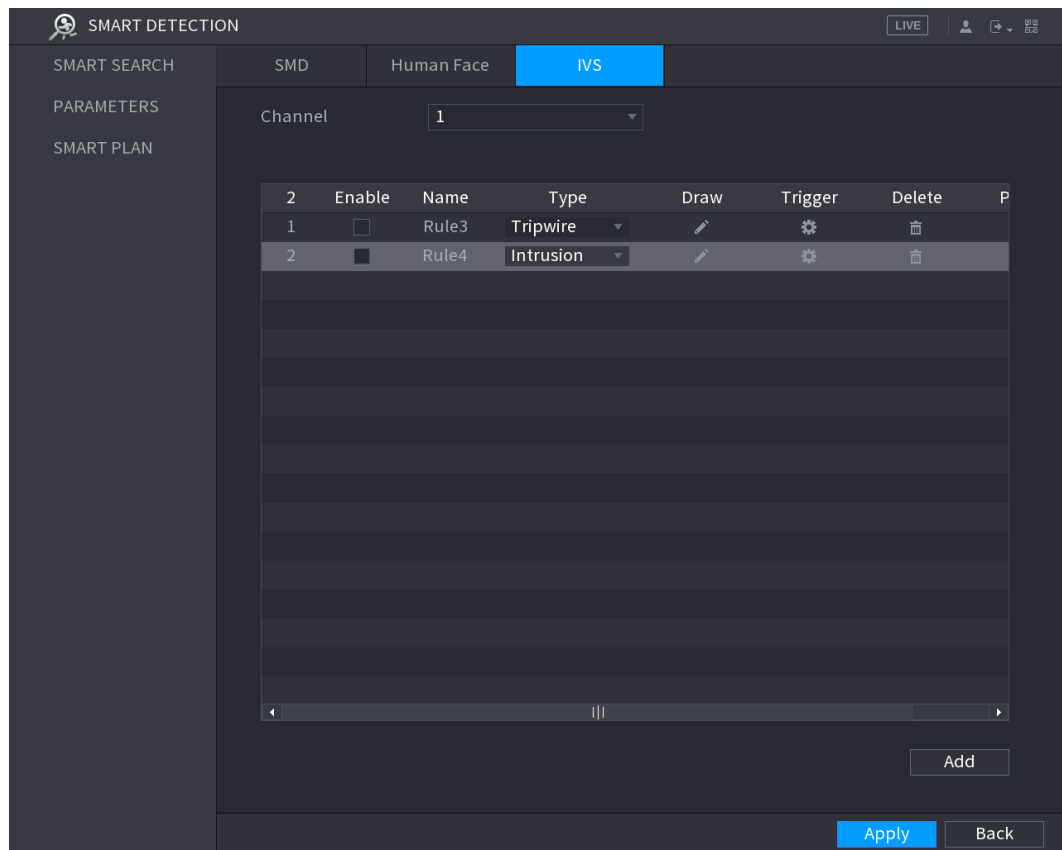

Figure 5-154
Step 1 On the rule line that you added, in the **Type** list, select **Intrusion**. See Figure 5-154.